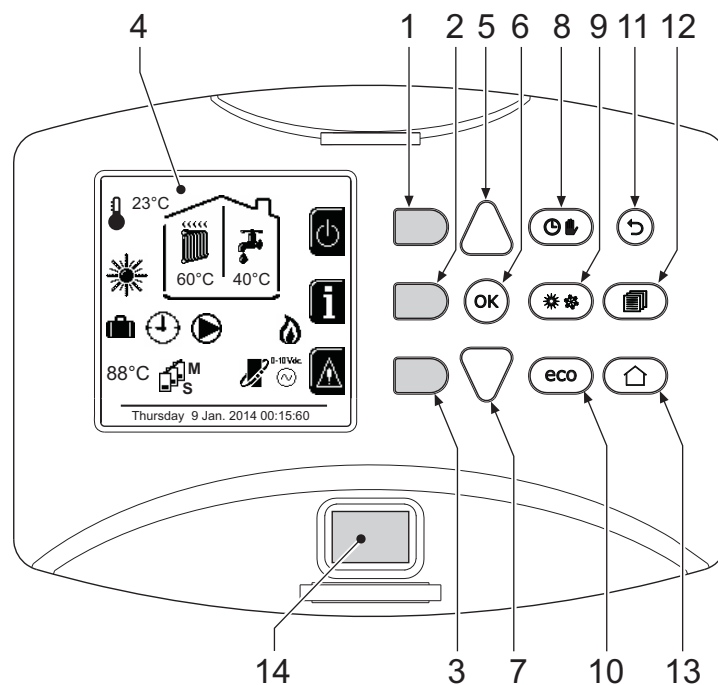

fig. 1 - Control panel
The contextual buttons (details 1, 2, 3 - fig. 1) are grey, with no screen print, and take on a different meaning depending on the menu selected. It is essential to observe the indication provided by the display (icons and text). In fig. 1 for example, using the contextual button 2 (detail 2 - fig. 1) it is possible access unit information such as: temperature of sensors, work power, etc.
Hot water tank temperature maintaining/heating can be excluded by the user. If excluded, domestic hot water will not be delivered. The hot water tank can be deactivated by the user (ECO mode) by pressing the **eco/comfort** button (detail 10 - fig. 1). In ECO mode the display activates the symbol ☹️. To activate COMFORT mode, press the **eco/comfort** button (detail 10 - fig. 1) again.
Press the On/Off button (detail 14 - fig. 1).
To adjust the display contrast, press the **contextual button 2** and the **OK button together**. Then press the button ref. 5 of fig. 1 to increase the contrast or the button ref. 7 of fig. 1 to decrease it.